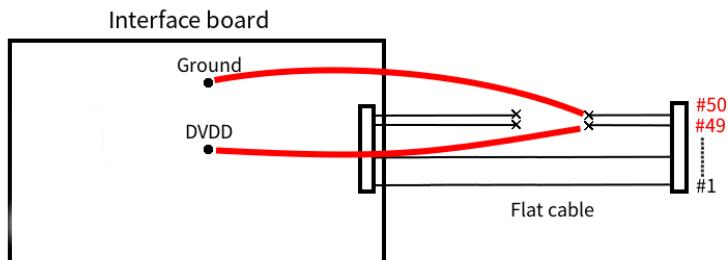
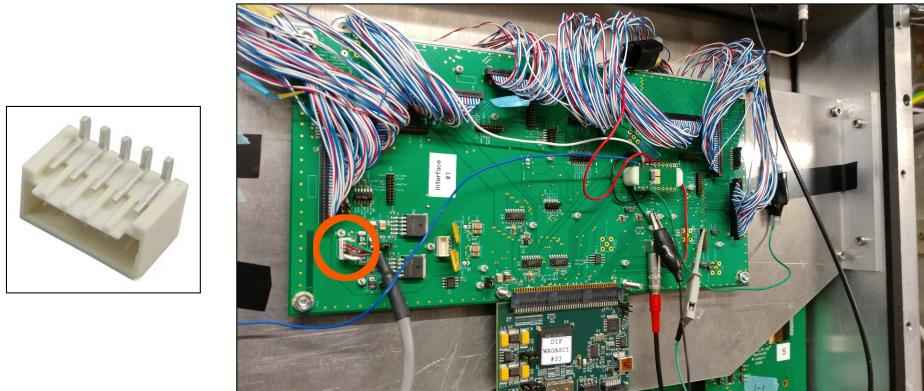

Figure 1.23: How to connect the #49 and #50 wires to the DVDD and Ground pins.
Figure 1.25: Vertical wire-to-board 5-pins socket on the Interface board for the Low Voltage connection
The High voltage must be connected to the only LEMO 00 female connector that can be seen on the right of the DIF in Figure 1.23. Where to connect the Low Voltage cable is shown in Figure 1.25 and in Section 1.3.4.
10. The final result should look more or less like Figure 1.23.
To make the cable just buy a male connector (TO-DO insert link) and connect the pins following the pin-out of Figure 1.25.